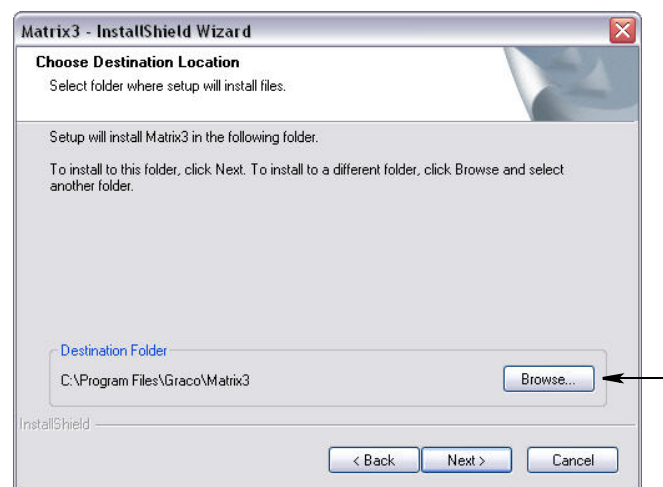

FIG. 16
8. Chose the Destination Location. The default is C:\Program Files\Graco\Matrix3. Click the Browse button, shown in FIG. 16 to select a different location.
9. Click NEXT to continue software installation and advance to the InstallSheild Wizard for Matrix3, FIG. 16. Click The BACK button to return to a previous installation screen or CANCEL to end the software installation.